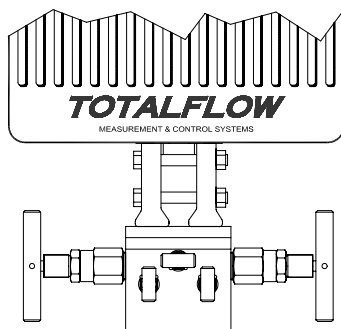

Figure 3 (Typical Manifold Mount)
5. Mount manifold to bottom of the μ FLO. Since the μ FLO can be ordered with the flow going left to right or right to left, verify direction of flow by looking at the transducer tag that shows a (+) and (-). Plus(+) indicates the high side (upstream side), therefore flow is from (+) to (-). For direct mount manifolds, the direction is very important. (See Figure 3 for a typical manifold configuration)